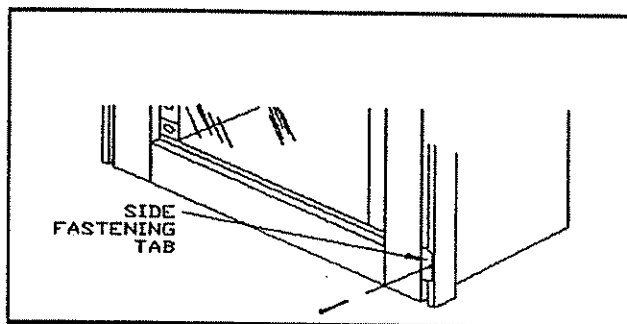
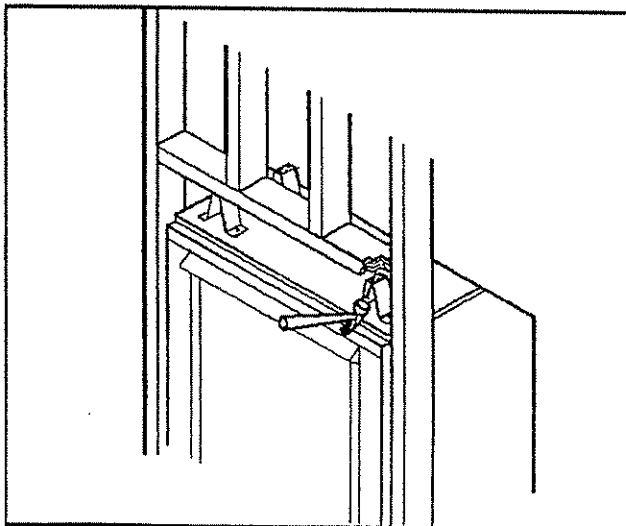

Fig. 11. Permanent positioning using side fastening tabs.
Fig. 12. Permanent positioning using the standoffs.
To prevent the unit from shifting, the appliance should be anchored. Two (2) methods are possible: Use bottom fastening tabs as shown in Fig. 11, or use the standoffs on the top of the appliance. A nail may be driven through the standoff at the front of the appliance into the header as shown in Fig. 12.